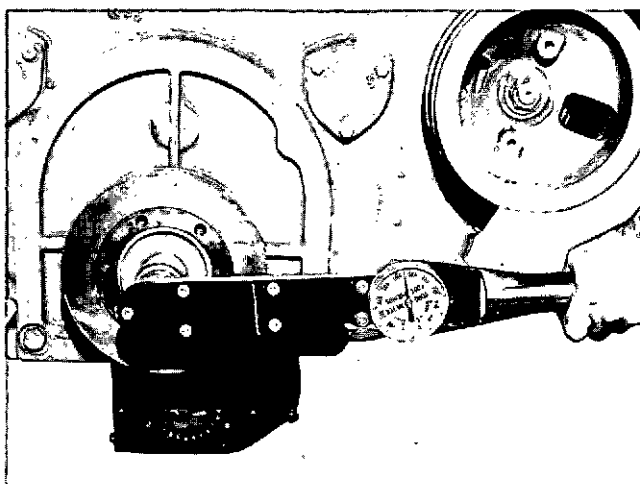

Fig. 14-1-72, V414167. Tighten flange to crankshaft capscrew
2. Secure with washer and Nylok capscrew; torque to 450 to 500 ft. lbs. [62.2350 to 69.1500 kg m]. Fig. 14-1-72.